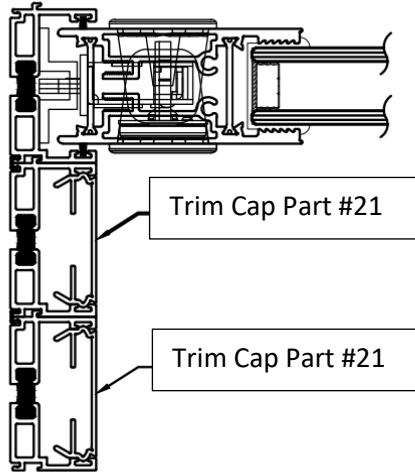

Figure 1
34. Install the longest trim cap pieces (Part #21) into the exterior and center jamb tracks (Part #15) on the operable side as shown in figure 1 then install the other two trim caps that are the same length into the interior and center jamb tracks shown in figure 2.